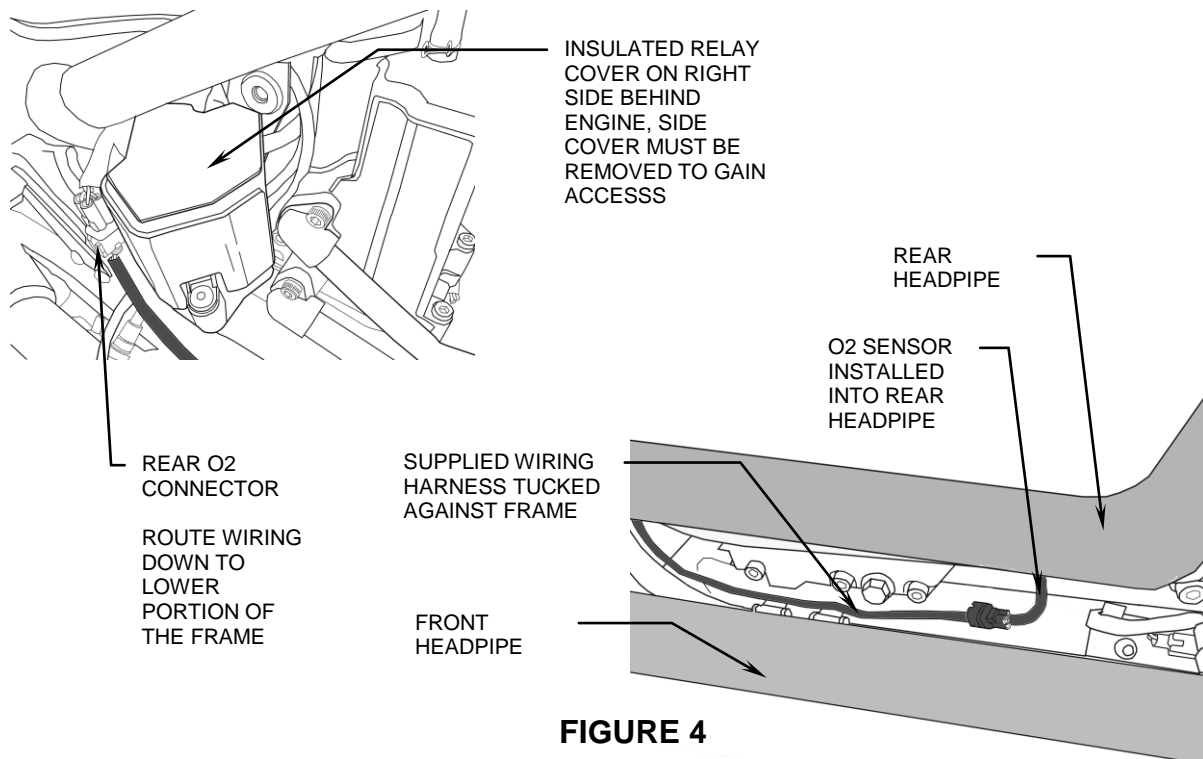

FIGURE 4
10. Plug front O2 sensor connector into stock location. Plug rear O2 sensor connector into the supplied O2 sensor harness extension and plug the opposite end into the stock harness location. Make sure the extension harness is tucked inside frame and away from exhaust pipe. Refer to Figure 4.